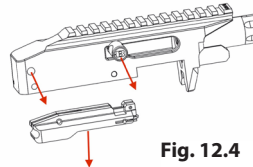

Fig. 12.4
- Remove the rear recoil buffer pin, move and hold the bolt to the rear position and remove the bolt (Fig. 12.4).